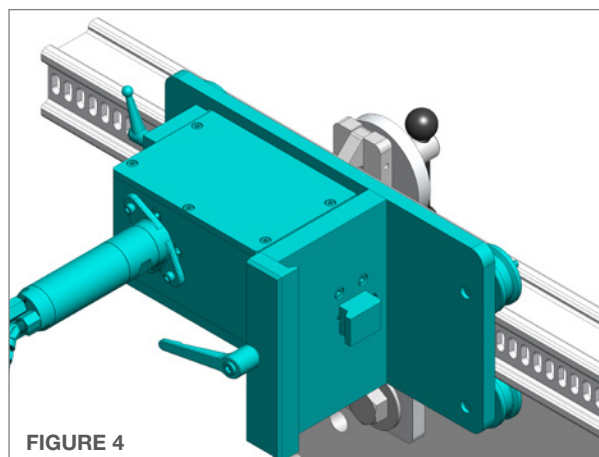

FIGURE 4
4. Loosen the **Quick Adjust Handle** and pull the gearbox away from the carriage plate. This will allow the **Horizontal Drive Carriage** to slide onto the rail without pneumatic power, to rotate the drive. Center the carriage on the top rail and push the gearbox back toward the carriage plate. This will engage the gearbox into the rail slots. Verify the gear is engaging the slots correctly and tighten the quick adjust handle. **(Figure 4)**